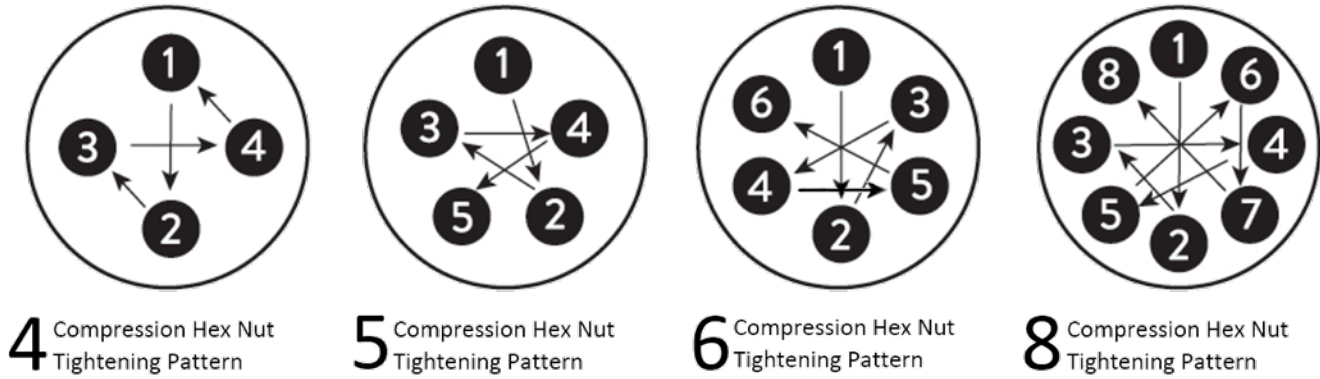

Figure 15: Compression Hex Nut Tightening Pattern Examples
- Using a star pattern shown in Figure 15, turn each **Compression Hex Nuts(19)** a maximum of 3 full revolutions before moving to the next nut. Repeat until 50% target torque is achieved on all nuts, then increase to 100% target installation torque and continue torquing in a star pattern. After completing the star pattern at 100% of the target torque, use a circular pattern to confirm all nuts are torqued correctly.